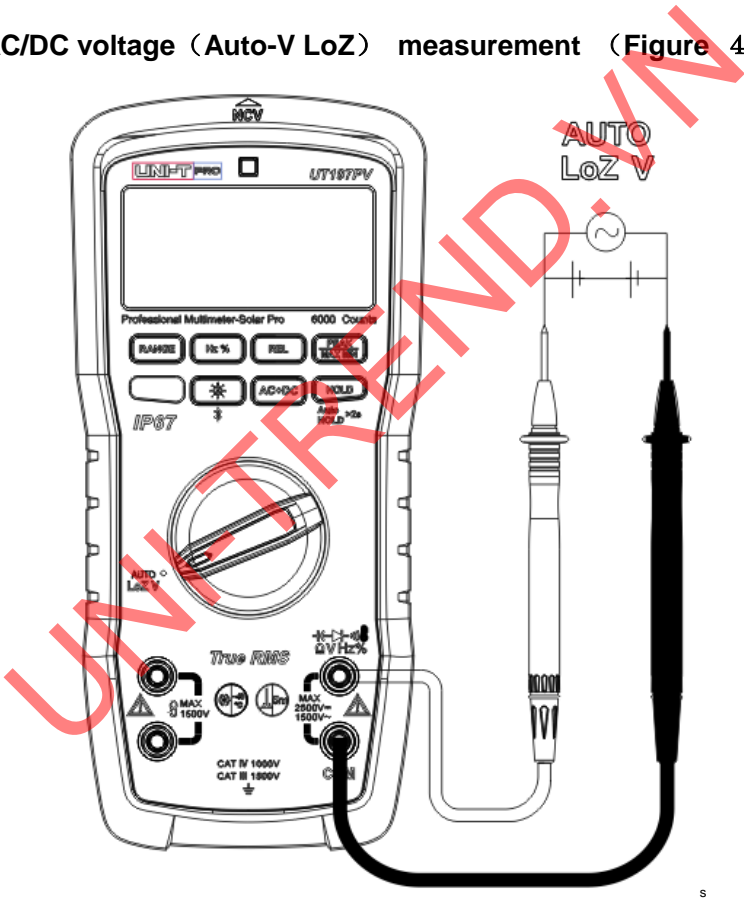

Figure 4
1. Automatic AC/DC voltage (Auto-V LoZ) measurement (Figure 4)